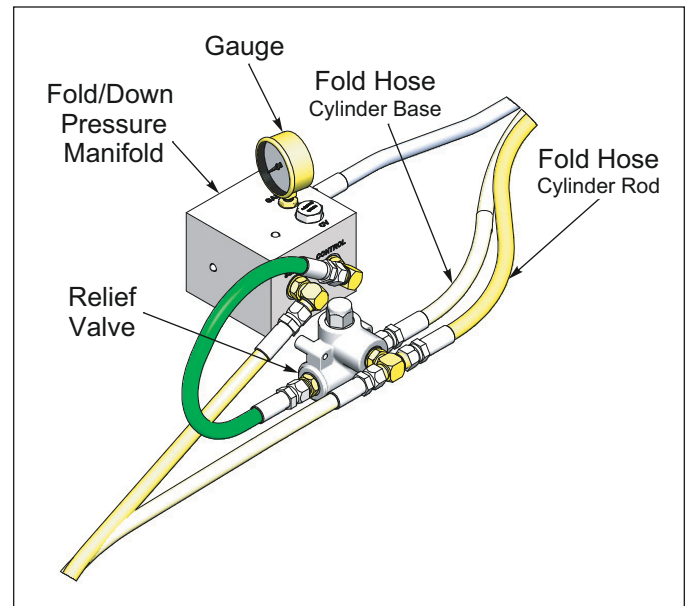

Figure 2-20: Fold/Down Pressure Valve
6. Install the Fold/Down Pressure Valve and Relief Valve fittings and hoses. **See Figures 2-20 and 2-21.**